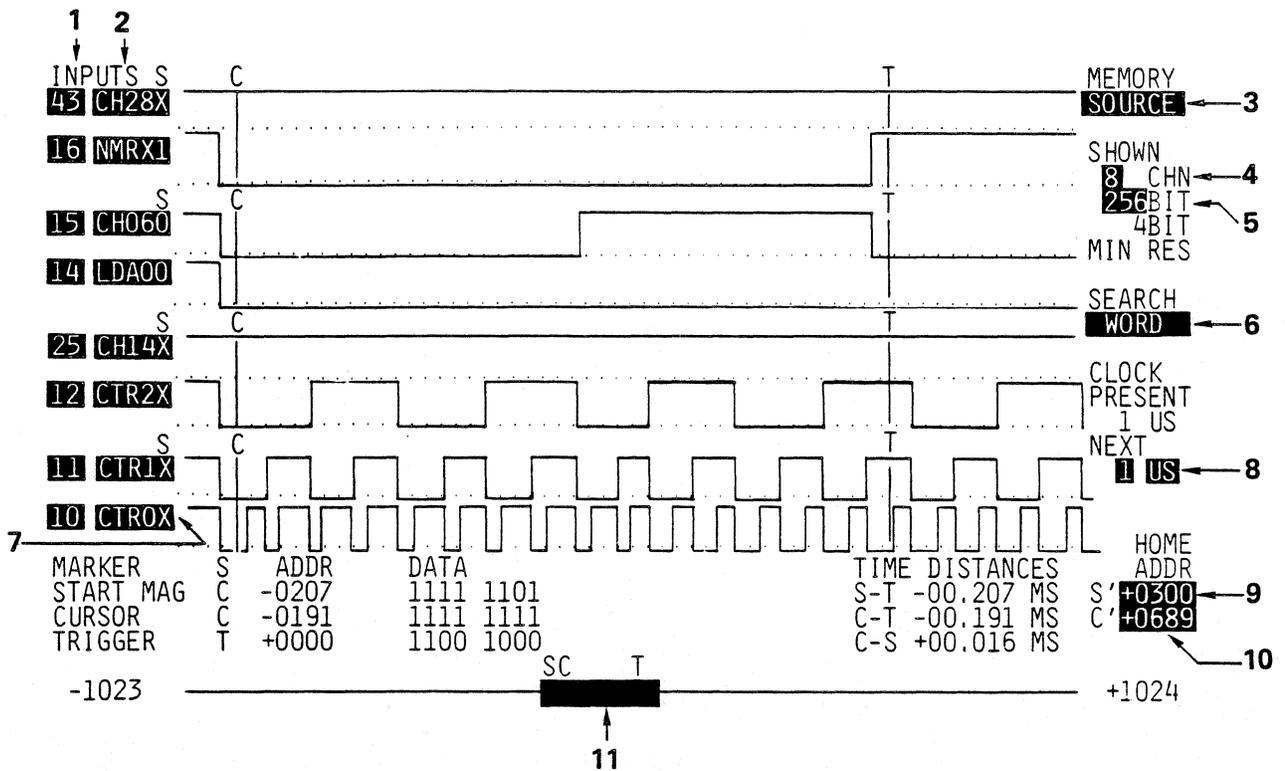

Figure 3-28 Input Fields In The Timing Display
The parameter input fields around the timing display are shown in **Figure 3-28, Input Fields In The Timing Display.**
| SCREEN AREA | CALLOUT NUMBER IN FIGURE 3-28 |
The selection of 8 or 16 channel time display occurs in field 4 as identified in Figure 3-28, Input Fields In The Timing Display. When switching between 8 and 16 channels, each time the top 8 channels of the 16 channel display are shown. If individual probes are set in the glitch operation in the configuration menu, the user can switch to glitch display via key G, as long as the cursor is in field 4. Switching to the glitch display with the G key restores the timing display to its original vertical sequence with the pin numbers increasing from the bottom of the display to the top. There are two types of glitch displays:
Field 5 in Figure 3-28 indicates the number of memory places of the 2K or 4K memory depth is being displayed. The ROLL keys (9) change the time window and also change the magnification
As an alternative to continuous scroll, jump addresses for S and C can be input in fields 9 and 10 as shown in Figure 3-28. Then the cursors can be made to jump back and forth between originating addresses, and the input HOME addresses freely. To mark an originating position as a HOME address, the user need only press the HOME key, and the original address will be input automatically into the HOME address field.
The magnified time window can be scrolled in increments of its own width (this width is displayed in field 5 of Figure 3-28). In order to scroll the time window, the cursor must be moved through the input fields 3 through 10, and positioned on field 11. Then either LEFT, or RIGHT key, from key group (6) can be used to scroll the window horizontally.